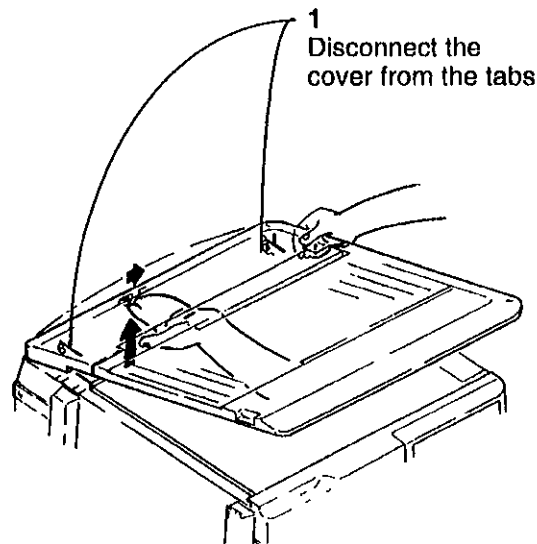

Figure 2. Removing the Platen Cover from the Assembly
- 3 (Figure 2): If required, remove the platen cover from the platen cover/glass assembly by lifting and sliding the cover to the right as shown